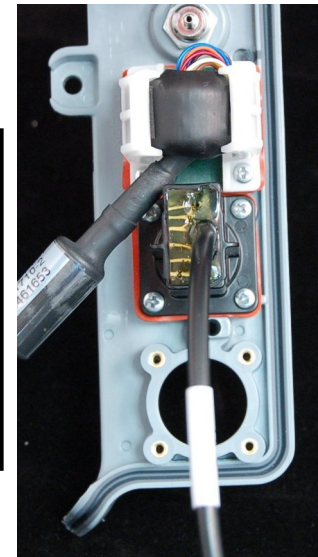

Figure 8.120—Temperature cable parts and screw locations
1. Place the temperature connector and new gasket (REF M30) into the second connector mounting hole up from the bottom of the parameter bezel. Secure the temperature connector with four new screws (REF F08); torque to 6.8 in-lb. (See Figure 8.120 on p. 358 for connector orientation.)